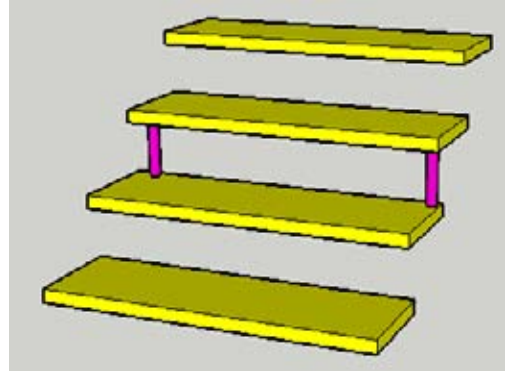

Figure 7-97
4. Copy the support component to the other side of the tread (Figure 7-97).